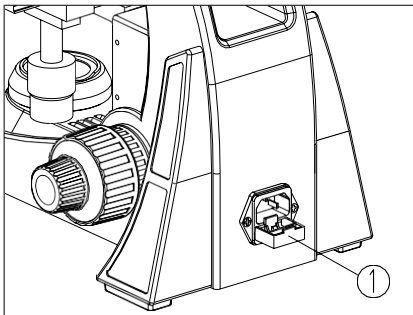

Fig.18
Turn the main switch to "O" (OFF) before replacing the fuse. Remove the power cord. Pull the fuse base① until the fuse can be removed from the fuse base. Install a new fuse and reinsert the fuse base thoroughly (See Fig. 18).